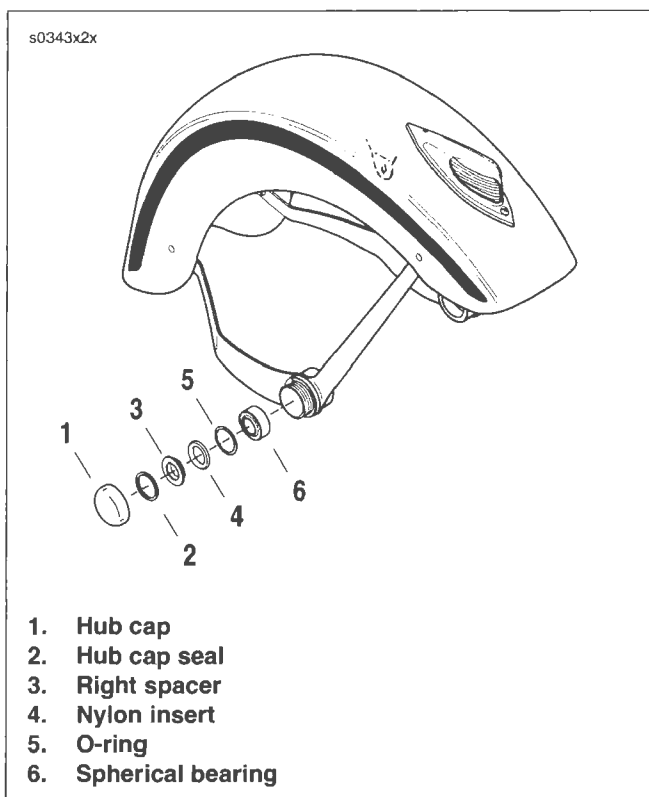

Figure 2-128. FLSTSC Fender Bearings
2. See Figure 2-128. Using an arbor press and suitable tool that makes contact with outer race of bearing (6) but is smaller than the fender bore, press spherical bearing out of fender bore, outboard to inboard.
See Figure 2-128. Parts 1-5 are shown for reference only. They are normally removed as the wheel is pulled from the vehicle.